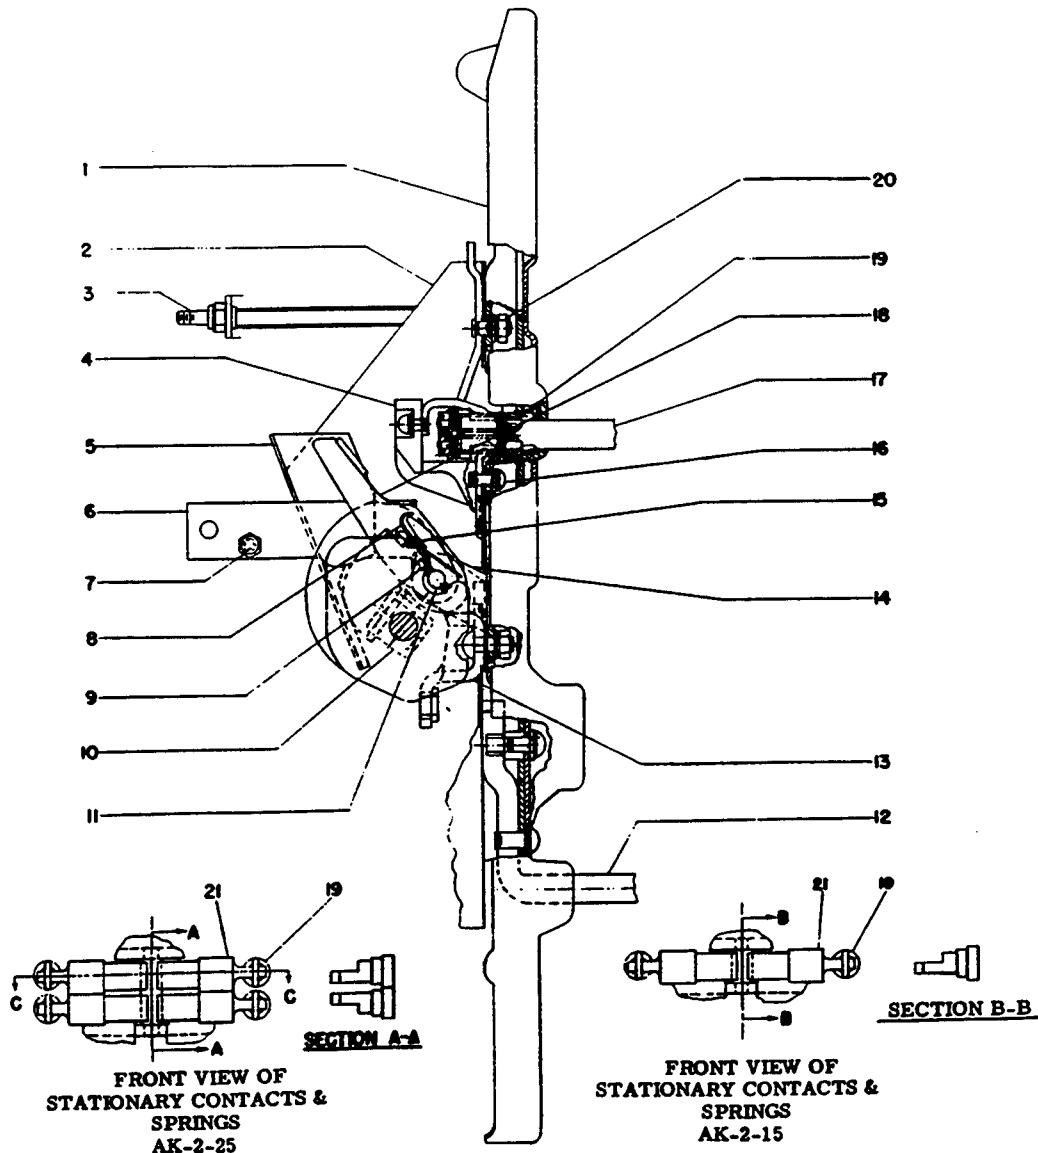

Figure 3. (549D409-2) Contact Assembly
stationary contacts and be sure to locate them in the breaker with the upper and lower contacts having their stop projecting surfaces as shown in the section AA, Figure 3. The upper left and lower right contacts are identical as are the lower left and upper right contacts.
#### REPLACEMENT OF MOVABLE CONTACTS (18) Figure 3.